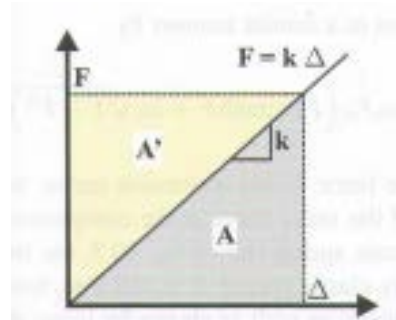

Fig. 10.5. Constitute law a linearly elastic spring
- constitutive law : straight line in the force vs. extension plot (Fig. 10.5)